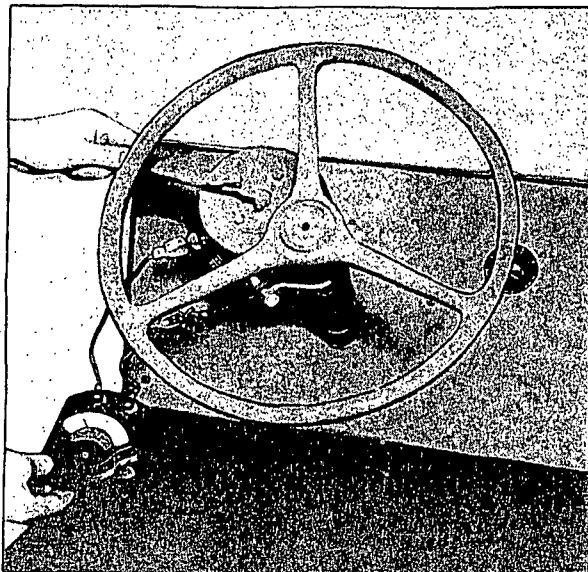

Fig. 14
1. Connect ammeter as shown in Fig. 14.